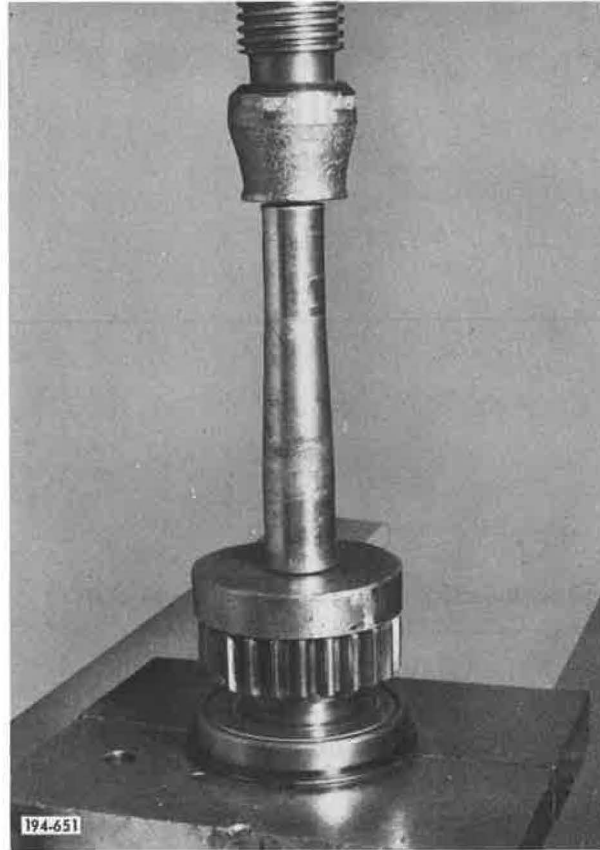

Figure 5-912. Installing Bearing
1. Press main drive pinion bearing onto main drive pinion shaft. Be sure outer race snap ring is positioned toward pilot end of pinion (away from pinion gear teeth). See Figure 5-912.